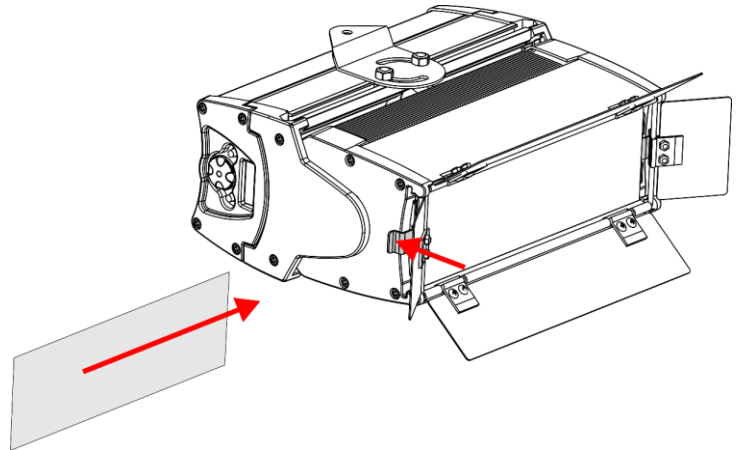

Fig. 13
- 03) Press the **beam shaper lock (05)** and at the same time slide the beam shaper in its place, as shown in Fig. 13.
- 04) Release the **beam shaper lock (05)** to lock the beam shaper in its place.